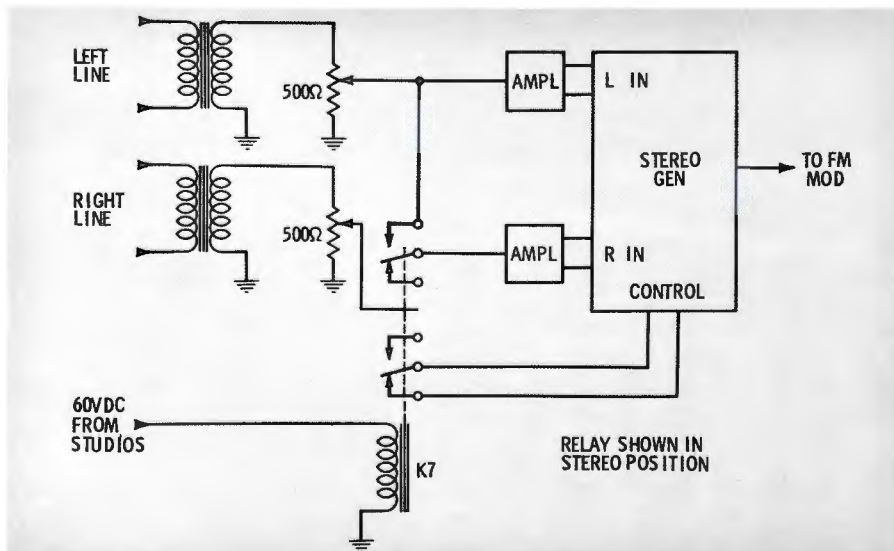

Fig. 4. Stereo/mono relays at transmitter are controlled over separate line.
4. At the transmitter (Fig. 4), the L-R subcarrier generator is energized, and the input of the right transmitter amplifier is switched from the left line to the right line.